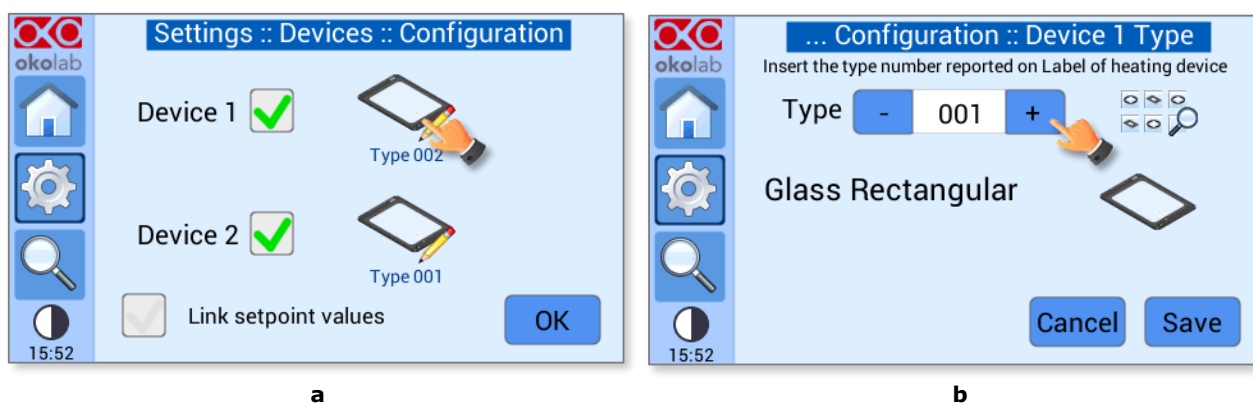
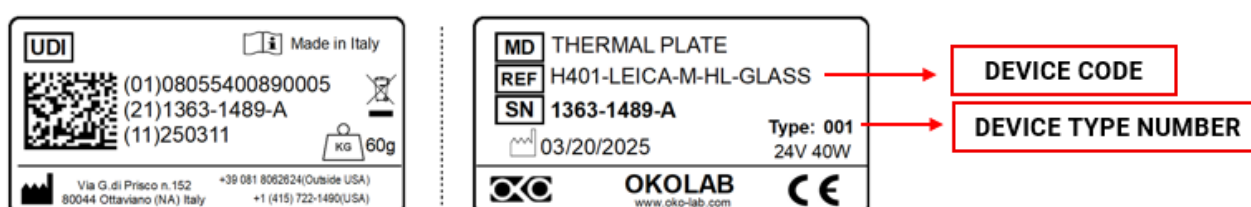

Figure 18. Device Type Configuration menu (a – b).
Figure 19. Heating device label.
- 2 Press on Device icon to choose the connected device type, see Figure 18 a. Select the type number of the device (see Figure 18 b). You can read the device type number on the label of the heating device (see Figure 19).